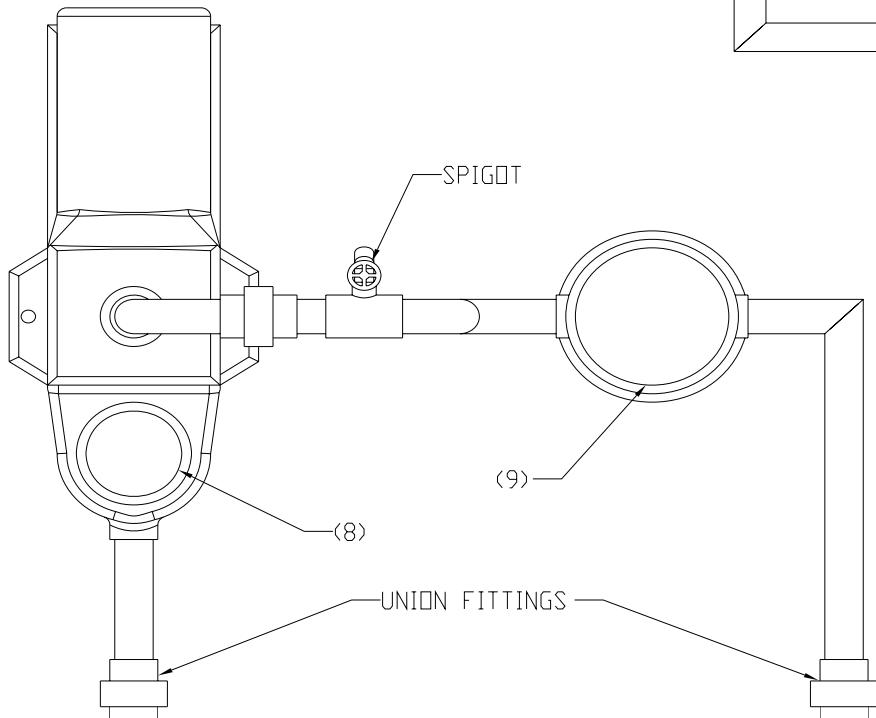

FIGURE 9
2. SPIGOT FOR STAND ALONE: A spigot can be incorporated in the stand alone version of the WetDek to allow for draining the reservoir, as shown in **FIGURE 9**; this spigot should be located between the pump (8) and filter/chlorinator (9). The spigot must be easily accessible to allow for connection to a hose. No spigot is required for the poolside version because the pool will have its own drain system.
3. UNION FITTINGS: It is also a good idea to use union fittings before and after each piece of equipment used in the WetDek system to allow for easy repair or replacement. This is also shown in **FIGURE 9**.